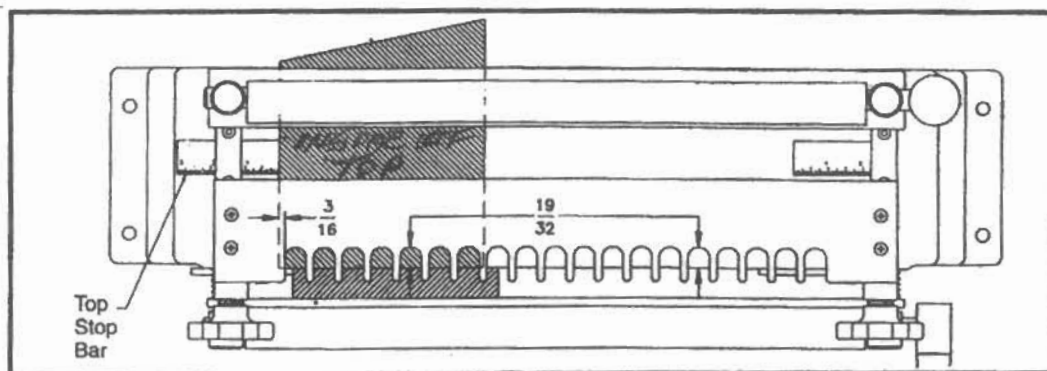

Fig. 8
3. Place $\frac{1}{2}$ " Half-Blind Dovetail templet on top of drawer front and position so that there is about $\frac{19}{32}$ " (see Fig. 8), from the back edge of the templet slots to the edge of the drawer front at both ends of the templet and tighten knobs to secure templet in place.
4. Position drawer front so that the left edge is $\frac{3}{16}$ " (see Fig. 8), past the left edge of the first templet slot and clamp board in place.
5. Slide top stop bar (see Fig. 8), to the right to contact drawer front and lock in place.